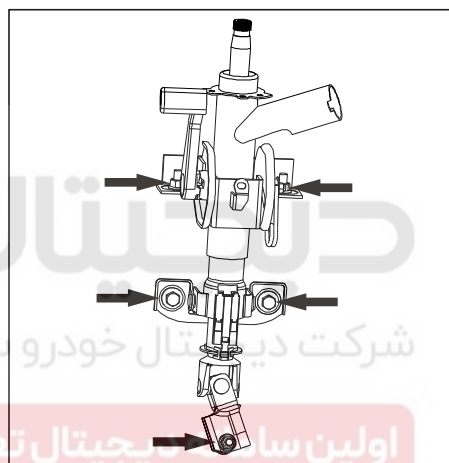

Figure 6-17 Disassembly of upper steering shaft
5. Screw off check nuts for both upper and lower steering shaft and plug out connecting bolts as shown in Figure 6-17.
6. Screw off the two check nuts and fastening bolts separately, take down the steering shaft from the steering bracket as shown in Figure 6-17.